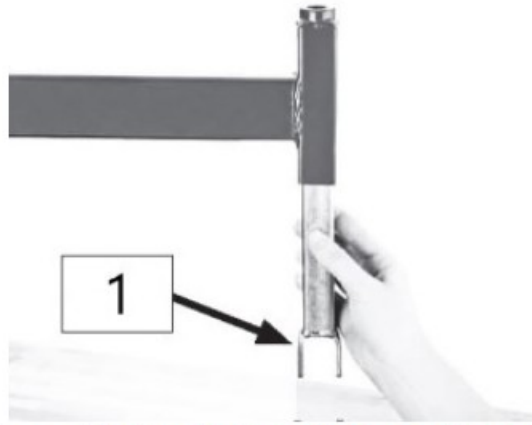

Fig. 5 – Setting in the cylinder holder into the frame
2. Put the frame upside down and set in the lower cylinder holder into the frame, as shown in Fig. 5.